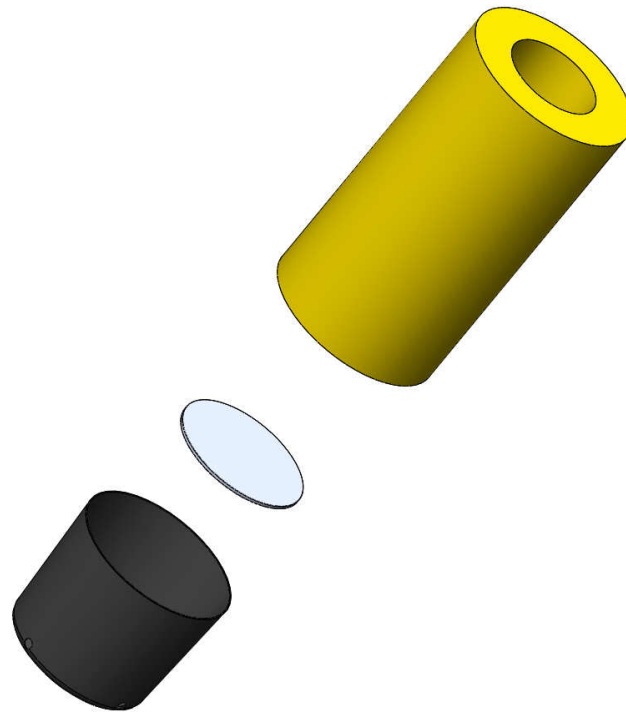

FIGURE 1-8
10. Assemble the baffled pickup assembly and insert it into the tank. **FIGURE 1-8**